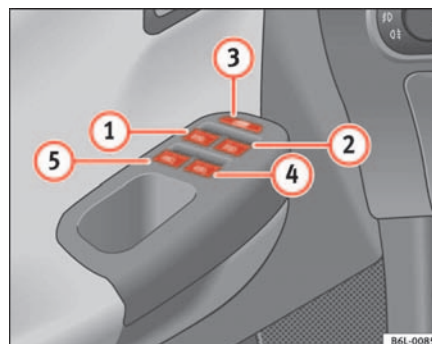

Fig. 51 Section of the driver door: controls for the front and rear windows
The buttons ⇒ page 82, fig. 51 ① and ② have two levels for opening the window and two for closing it. This makes it easier to open or close windows to the desired position.